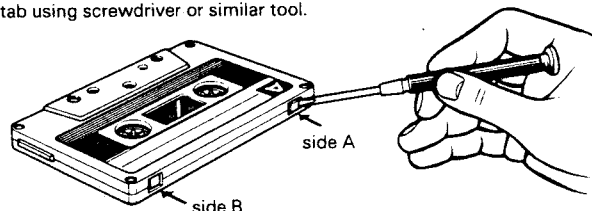
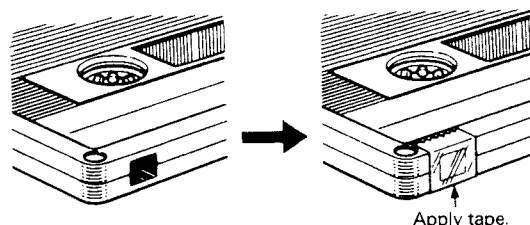

Fig. 6
Fig. 7
**To preserve valuable recordings** – Prized recordings are sometimes erased accidentally by putting deck into the record mode. To ensure protection, break off the plastic record-lockout tab for the side you wish to protect as shown in Figure 6. Your deck cannot be put into the record mode when this tab is broken off. Use a small screwdriver or other pointed tool to break off the tab. To re-record onto a tape, apply plastic tape to cover the detection hole (Fig. 7).